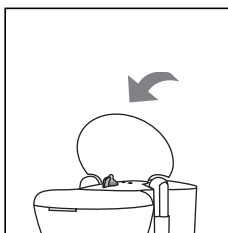

fig. 3
- Lift the water tank lid and remove the tank (fig. 3)